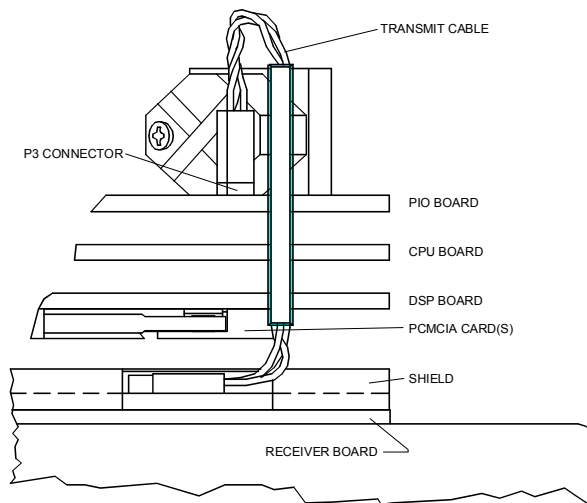

Figure 1. Transmit Cable
- i. Note the orientation of the transmit cable connector as it is plugged into the PIO board and to the Receiver board (see Figure 1).